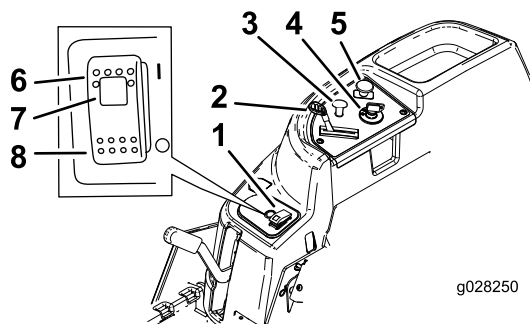
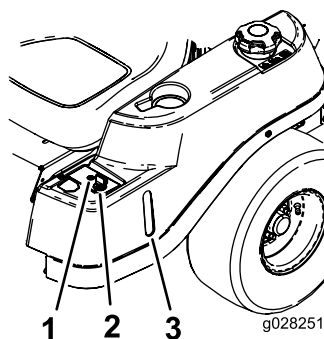

Figure 6
Figure 7
Become familiar with all controls in Figure 6 and Figure 7 before you start the engine and operate the machine.
Use the choke to start a cold engine. Pull the choke knob up to engage it. Push the choke knob down to disengage it (Figure 6).
The throttle controls the engine speed, and it has a continuous-variable setting from the SLOW to FAST position (Figure 6).
The blade-control switch (PTO) engages and disengages power to the mower blades (Figure 6).
The fuel window, located on the left side of the machine, can be used to verify the presence of fuel in the tank (Figure 7).
This switch allows you to mow in reverse when it is activated. To activate it, turn the switch to the ON position and release it after the PTO is engaged. To deactivate it, disengage the power takeoff (PTO) (Figure 7).
- Pressing the Smart Park™ switch to the ON position (Figure 6).